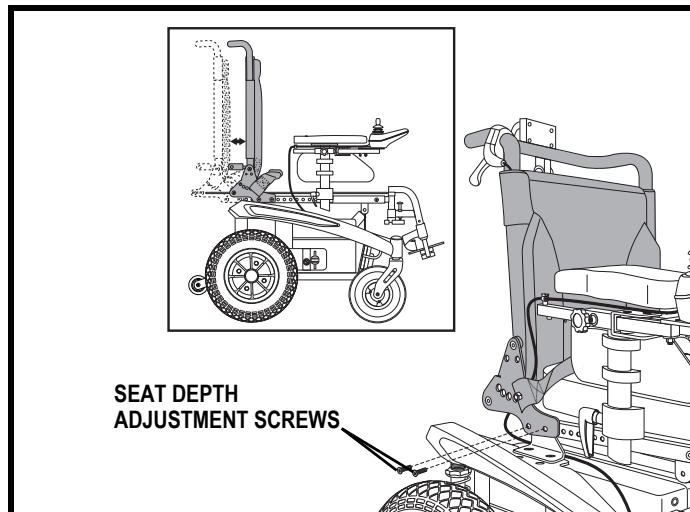

Figure 12. Seat Depth Adjustment
2. Remove both seat depth adjustment screws from each side of the seat. See **figure 12**.